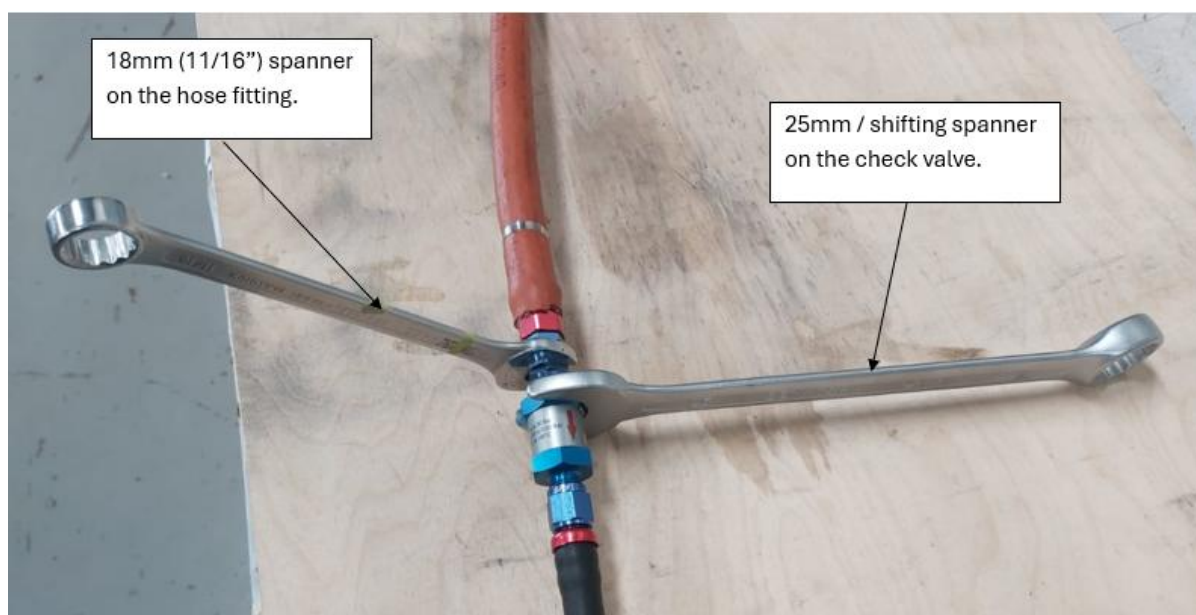

Figure 10: Correct way of loosening and tightening the check valve from the fittings.
- Step 6: Using the 18mm and 25mm spanners, carefully loosen the aluminium fuel line fittings connected to the check valve. See Figure 10 for illustration of loosening the fittings from the check valve.